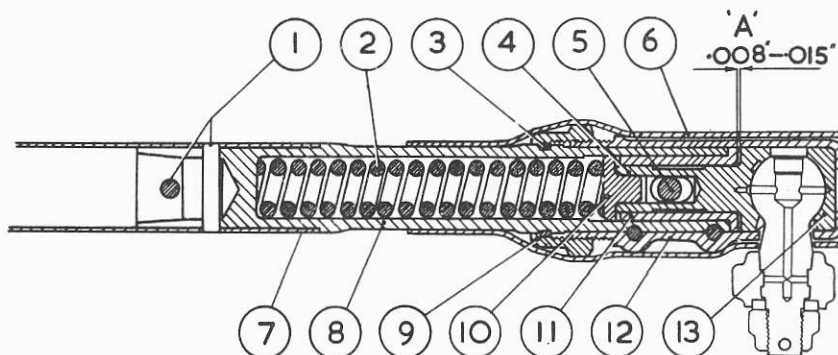

FIG. 1. SECTION THROUGH CROSS STEERING TUBE JOINT.
- (ii) Slacken off the steering joint nut (9, Fig.1), of the original tube from one to two flats and remove the two clamping bolts from the end of the tube and then carefully remove the tapered cotter pin (5) situated between the clamping bolts.
- (iii) Unscrew the steering joint nut from the sleeve (12) and remove all parts from the end of the tube taking care to note the position of any packing washers (shims) that may be found to be fitted. Slide or lightly tap the steering joint nut down the tube which will expose the retaining ring (3) fitted beneath it. Remove the retaining ring and the nut. Repeat for the opposite side of the tube. Keep right-hand and left-hand parts removed in separate containers and thoroughly clean all parts.
- (iv) The next operation is to assemble all the parts removed (with the exception of the cotter pins) from the original tube to the new tube and loose end piece in order to set a gap of .008" to .015", (as shown at point 'A' Fig.1), at each end of the tube as described below and then drill and ream the tube to take the tapered cotter pins also described below.
- a) Place one of the steering joint nuts (9) on the tube or the loose end piece and then fit the retaining ring (3) in the groove provided.
- b) Place the spring (2) into the tube and assemble to the tube the remainder of the parts (including any packing washer/s should they have originally been fitted) in their proper sequence (See Fig.1) including the ball pin.
With the outer ball pad (13) in position in the sleeve, slide the sleeve into position on the tube. Engage the threads of the steering joint nut with those of the sleeve and screw up the nut until there is a gap of .008" to .015" at point 'A' Fig.1.i.e., between the rear face of the inner ball pad (4) and the corresponding face of the steel bush (11) into which the ball pad is fitted. This clearance is necessary so that the spring can operate freely. Having obtained the correct gap, then fit the two clamping bolts in position and tighten up the nuts but do not split pin them at this stage. The heads of the bolts must be fitted in the location provided on the sleeve.